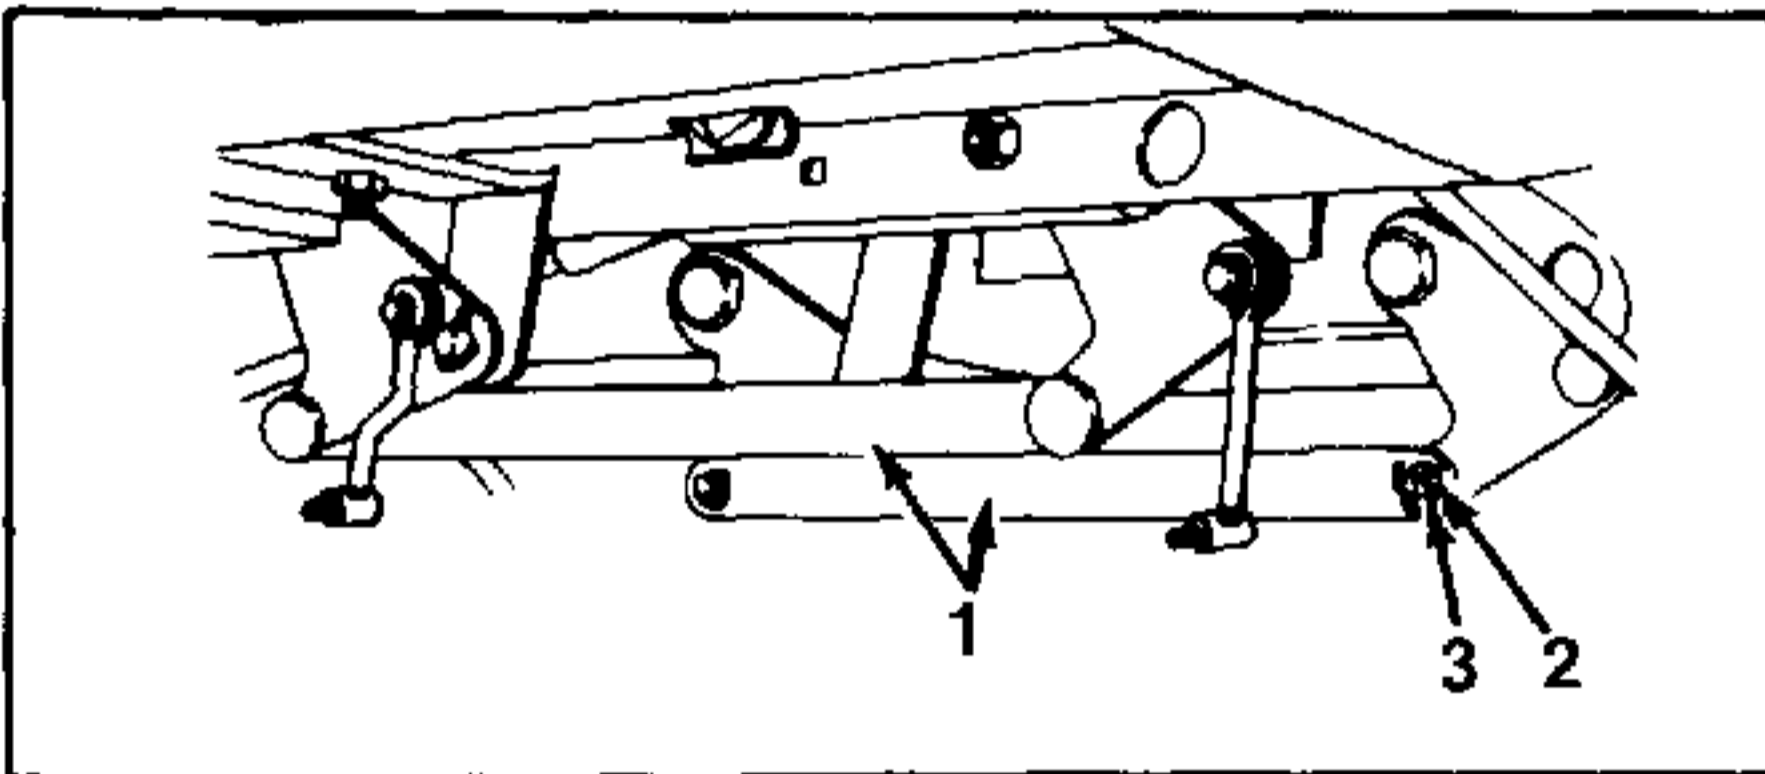

FIGURE 3.
3. Refer to figure 3. Remove cotter pins and flat washers attaching existing connecting links on tractor. Remove links and discard. Save cotter pins and flat washers.